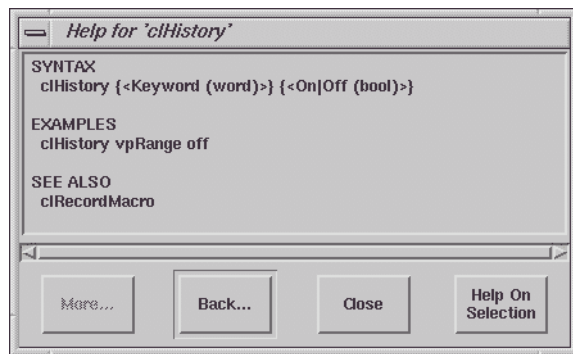

Figure 8-11 Syntax description of the `clHistory` Xep command.
- **type.** Type specifies the data type of the argument. To determine the data type required by an Xep command, use the Help system. (See Section 4.7 of the Elexsys E 500 User's Manual: Basic Operations for more information on using the Xep Help system.) For example, Figure 8-11 shows the syntax description for the `clHistory` Xep command. Here we see that this command requires a word and a boolean argument. Note that the datatype must be delimited by parentheses.